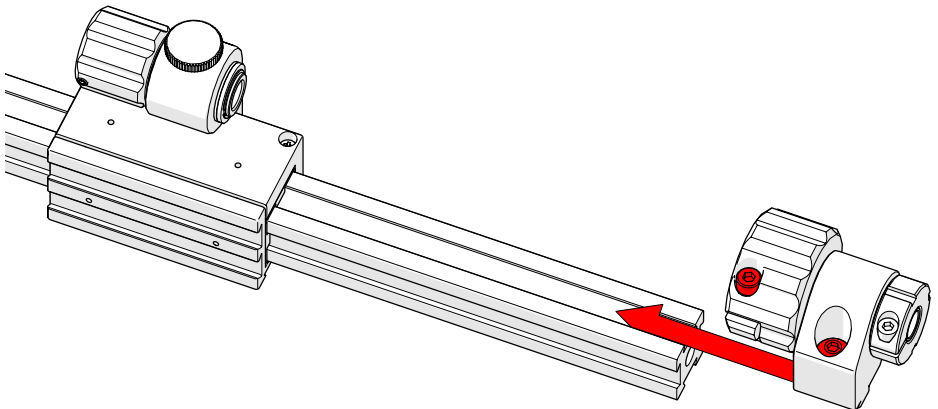

Fig. 67 - Place main knob on frame bar
3. Loosen the main knob's hexagonal screw and lock screw (*Fig. 67 - note red highlight*).
4. Align the dovetail nut of the main knob with the frame bar and slide into position (*Fig. 67*).